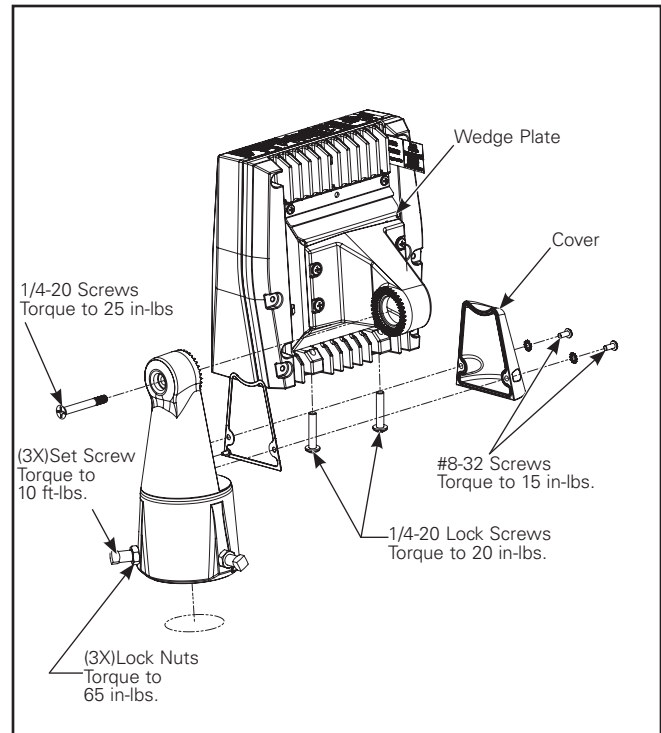

Figure 7. Axcent Small
3. Attach the trunnion assembly to the fixture and tighten (2) 1/4 -20 Phillips head screws to 20 in-lbs (Figure 7). Ensure that the luminaire supply leads are not pinched between the wedge plate and housing.